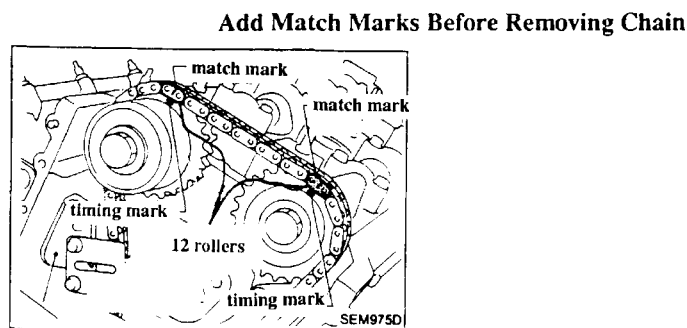

Figure 4
5. Use the indelible marker to scribe a "match mark" on the chain links adjacent to the cam sprocket timing marks (Figure 4).
4. Verify that the RH **cam chain marks** align with the sprocket timing marks and that the match marks on the cam front flange still align with the arrows on the front cam caps. (see Figure 4)
6. Verify that the LH chain match marks align with the sprocket timing marks and that the match marks on the cam flange align with the cam cap arrows. (see Figure 4)